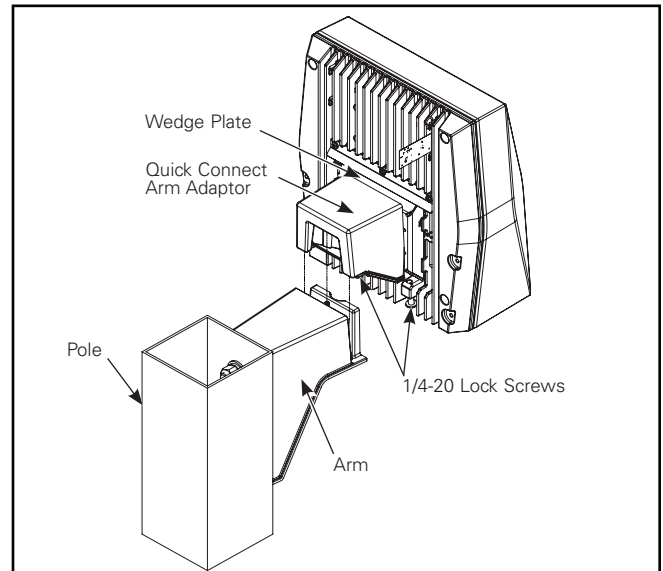

Figure 12.
4. Attach the quick-connect adapter to the fixture, pulling the luminaire supply leads through the wedge plate center hole. Tighten the (2) $\frac{1}{4}$ -20 lock screws on the fixture to 20 in-lbs. (Figure 12.)